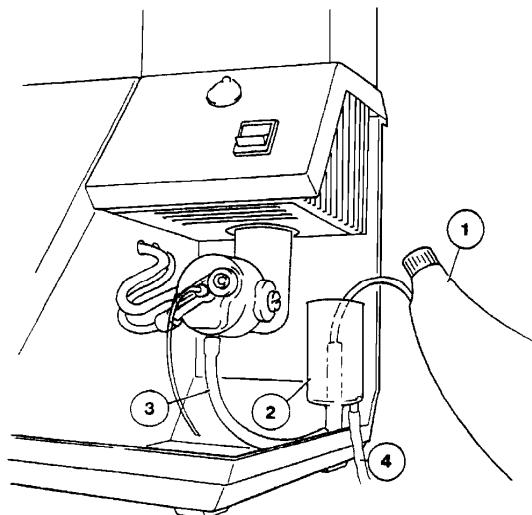

Figure 2.4 Filling the 'U' tube
- 8 Fit the constant head & drain (Gas Trap) on the two retaining screws (see below). Fit the drain tubing (400 22 002) (item 4, figure 2.4) to the outlet on the constant head and drain. If necessary connect a suitable length of tubing (not supplied), to extend the drain tubing to carry waste to a sink or other drain receptacle. The downward flow of waste must not be restricted.
- 9 Make sure that the constant head and drain is pushed fully down on its mounting screws. Use a wash bottle (item 1, figure 2.4) to fill the 'U' tube with deionised water. Sufficient water should be used to purge the tube of air. Allow excess water to flow back into the drain.